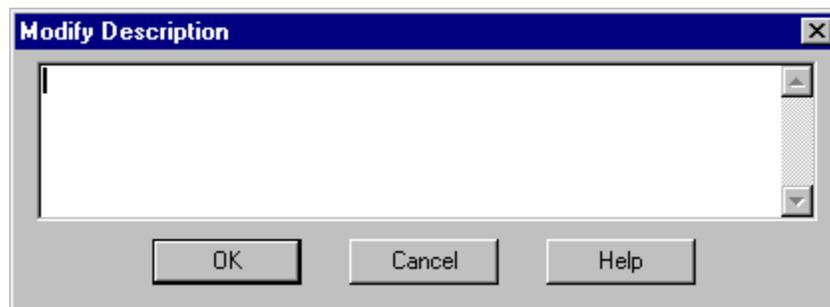

Figure 22 Modify Description Dialog
9. Lets make one more change to Sensor1. Lets add a description. Push the **Modify Description** button on the **New Limit Sensor** dialog. The dialog shown in Figure 22 will be displayed.